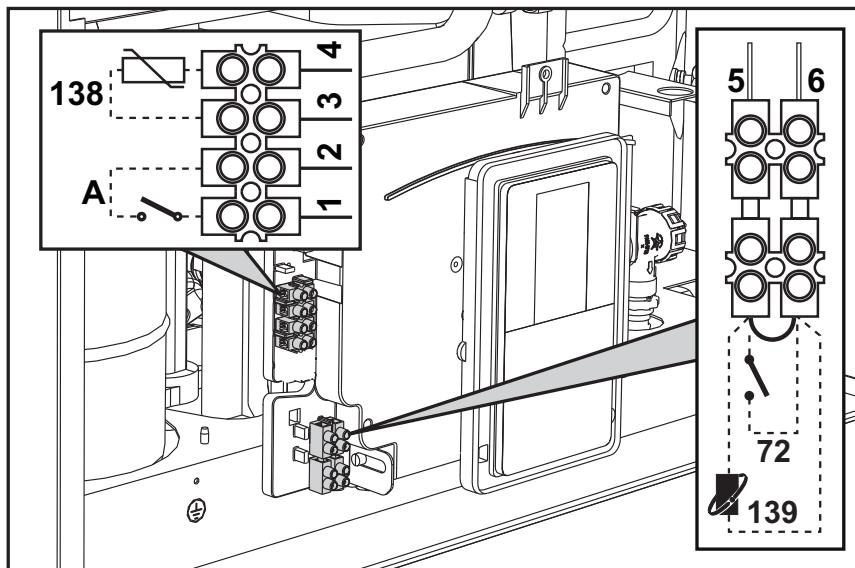

fig. 28
After removing the front panel (*** 'Opening the front panel' on page 310 ***) it is possible to access the terminal blocks (M) and the fuse (F) following the directions given below. **The terminals indicated in fig. 28 must be with voltage-free contacts (not 230V).** The arrangement of the terminals for the various connections is also given in the wiring diagram in fig. 51.
ON OFF switch configuration (A fig. 28)**Table 4- Switch A setting**